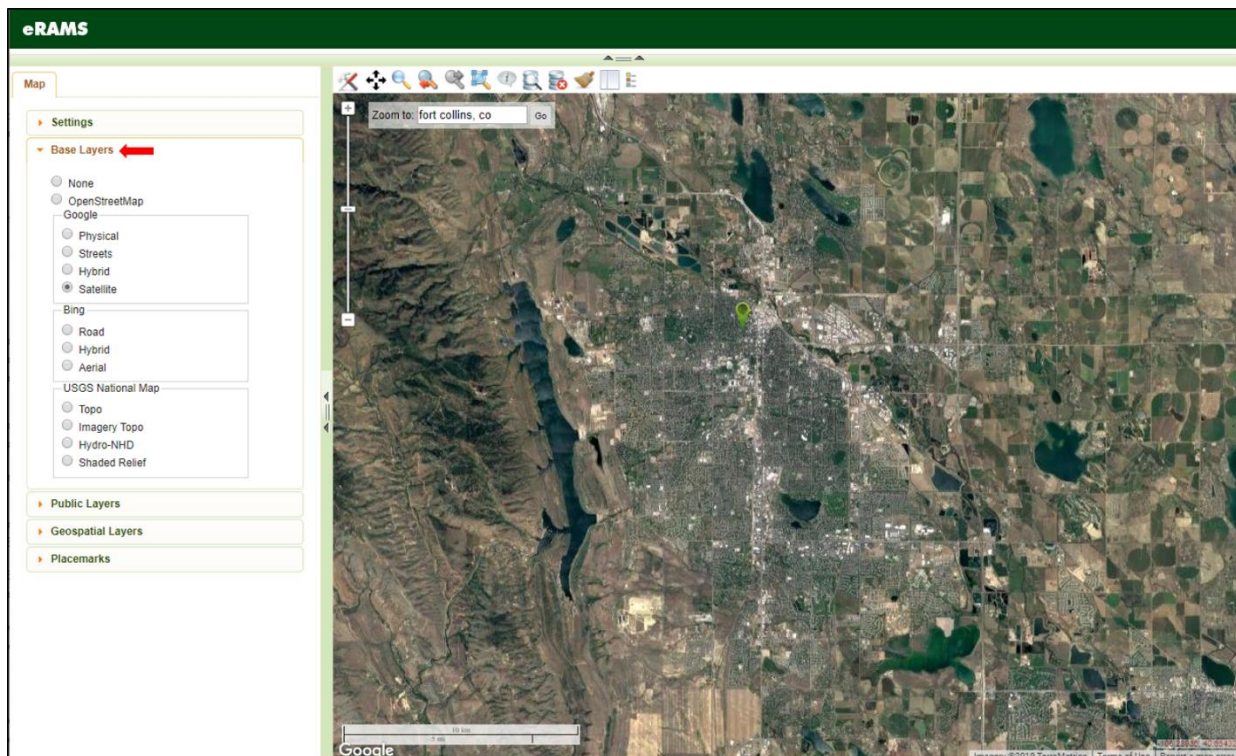

Figure 1: Modify base layer in eRAMS geographic interface
- Options include: Google, Bing, USGS National Map, None (Figure 1)